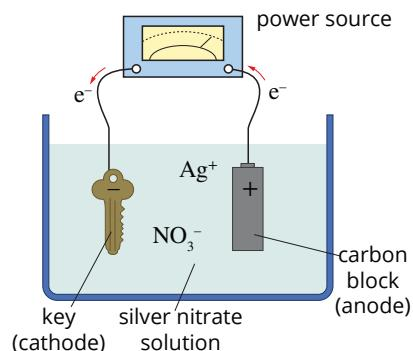

FIGURE 9.3.10 Electroplating a key with silver.
- Figure 9.3.10 shows an electroplating cell that was devised by a student to place a silver coating onto a key. An electric current is passed through a solution of 1.0 M silver nitrate (AgNO_3) using an inert carbon electrode as the anode.